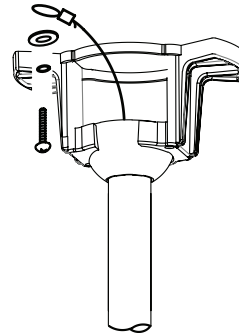

FIGURE 12
2. Secure the safety cable to the building structure using a wood screw (not included) (Fig. 12).